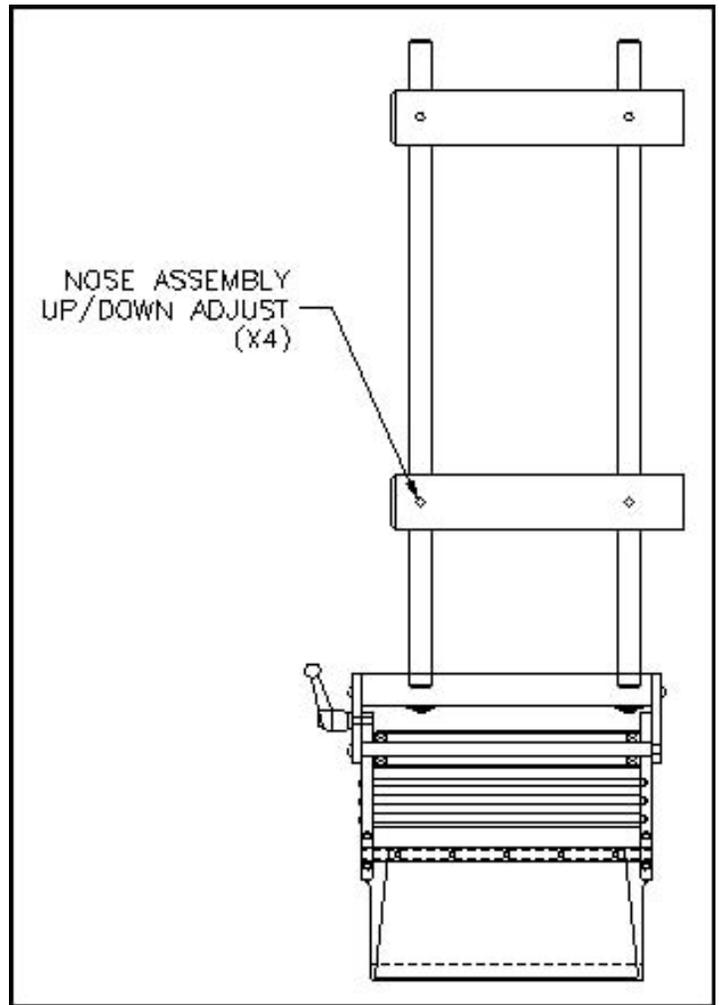
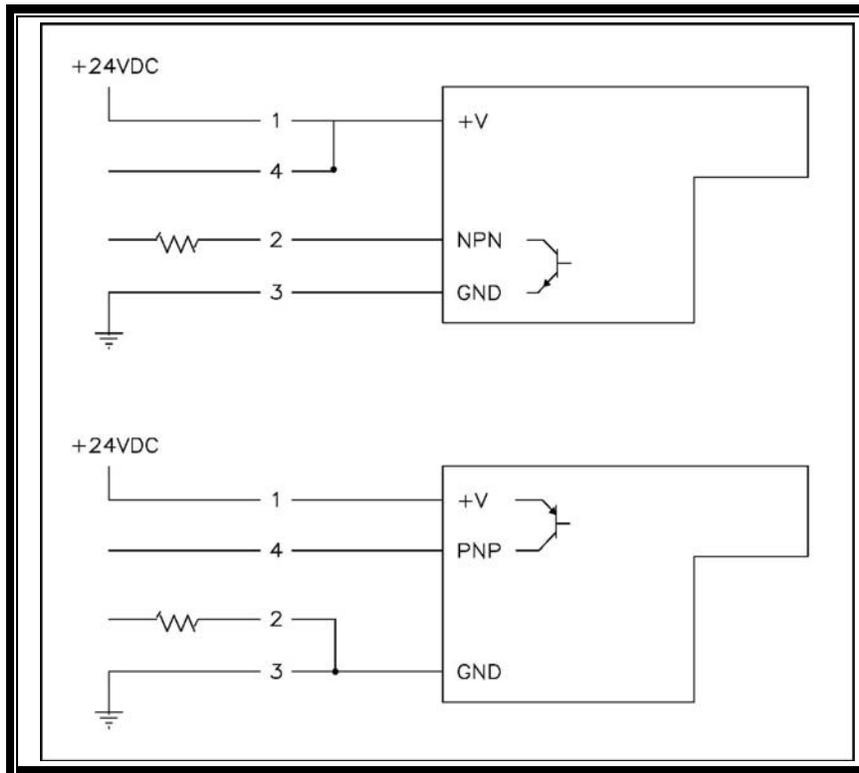

Figure 11- Nose Height Adjustment
Figure 14- Wiring for PNP and NPN Detectors
3. Position the applicator nose at a 15-25° angle to the side of the conveyor (see Figure 14). Adjust the angle by loosening the kip lever shown in Figure 11, moving the peeler plate to the proper angle, and then tighten the kip lever.
5. Adjust the entire applicator in or out until the tip of the peeler plate is 1/8 inch from the widest point of the side wall of the product (see Figure 14).